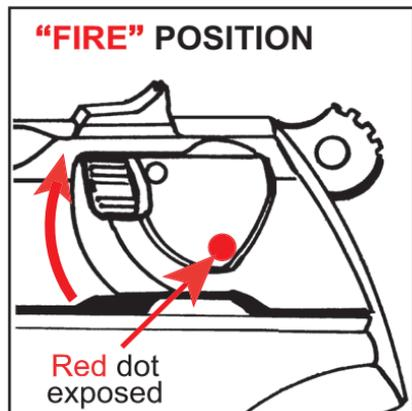

FIGURE 2
8. If the pistol is to be fired immediately, the manual safety can be rotated upward to its “fire” position (see Figure 2, p. 6). The firing pin is still blocked at all times by the internal firing pin block unless the trigger is pulled all the way to the rear.